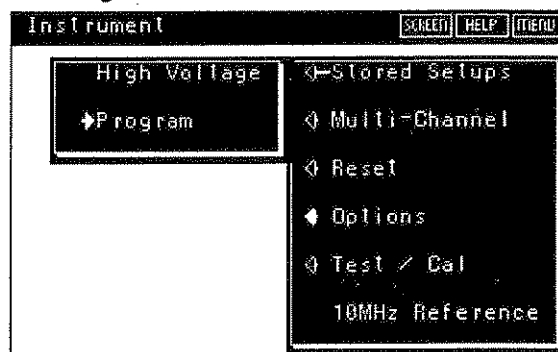

Figure G-4. Instrument/Option Screens
3. Press the INSTRUMENT key and select OPTIONS from the pop-up menu. See figure G-4.